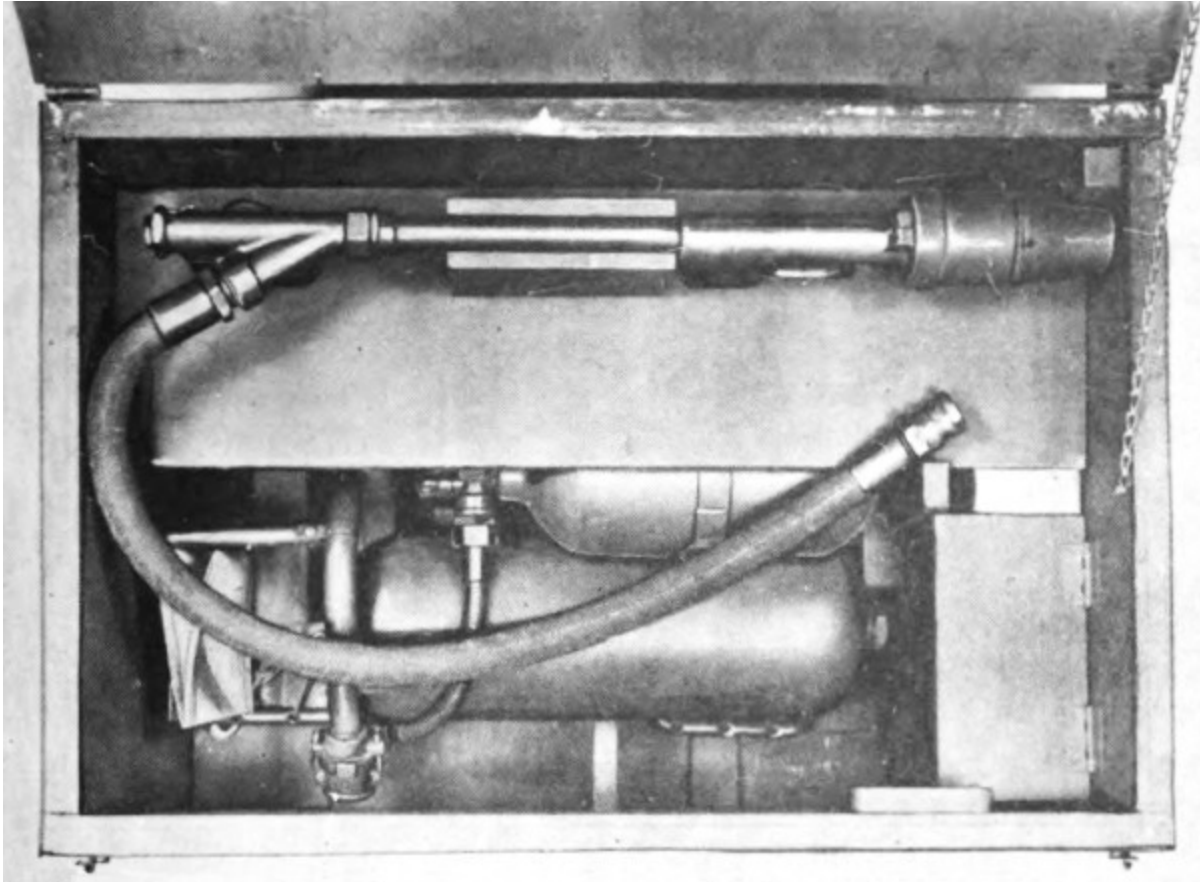

Fig 10. Packing chest open, with gun on mounting board. Tool kit, spare parts kit, and cans of ignition cylinders in boxes at right.
- e. Gun mounting board. (Fig 10)
- g. Remove mounting board and place gun with hose on the board as shown in Figure 10.